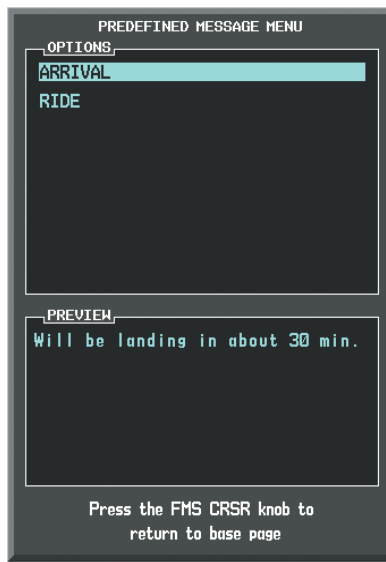

Figure 8-95 Predefined Message List
- 4) Press the **PREDEFD** Softkey. The PREDEFINED MESSAGE MENU Window is displayed as seen in Figure 8-95.